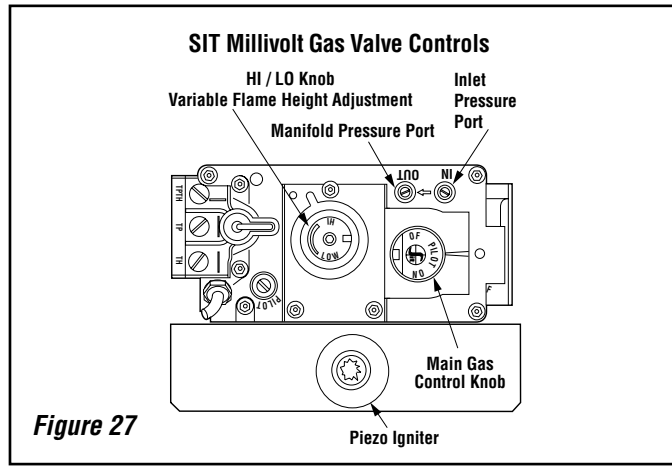

Figure 27
- Loosen setscrew at inlet pressure tap on upper right of control valve (see **Figure 27 on Page 27**).
With gas line installed run initial system checkout before closing up the front of the unit. Follow the pilot lighting instructions on **Page 34** (or pull out the instruction label located in a holder on rear shield of stove). For piezo igniter location see **Figure 27**.